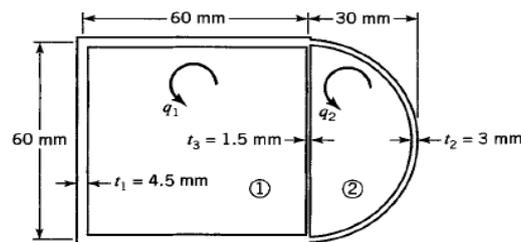

Fig.4
15. A hollow thin-wall torsion member has two compartments with cross-sectional dimensions as indicated in Fig.4. The material is an aluminium alloy for which $G=26.0$ GPa. Determine the torque and unit angle of twist if the maximum shear stress, at locations away from stress concentrations, is 40.0 MPa. [14M]